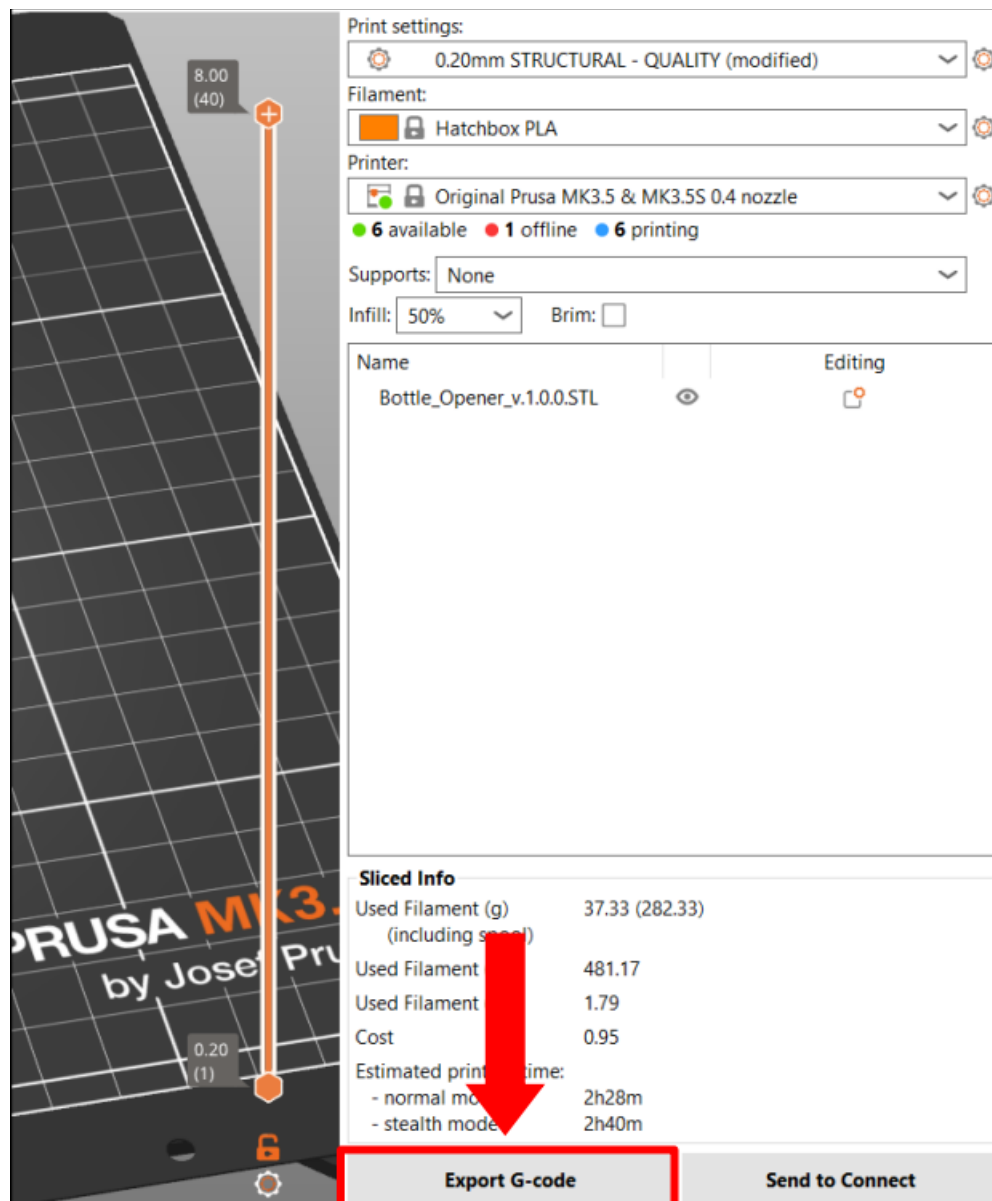

Figure 6. Export G-code Button.
- 11.) Once the slicing is finished, click “Export G-code” (see Figure 6) and save the G-code to a flash drive.